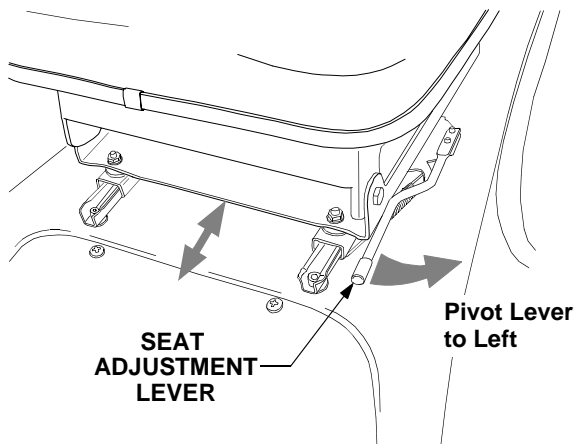

Figure 26
- After repositioning the seat, release the lever to lock the seat in position. Slide the seat either slightly forward or rearward to assure it is locked or until engagement of the lock is felt. See Figure 26.